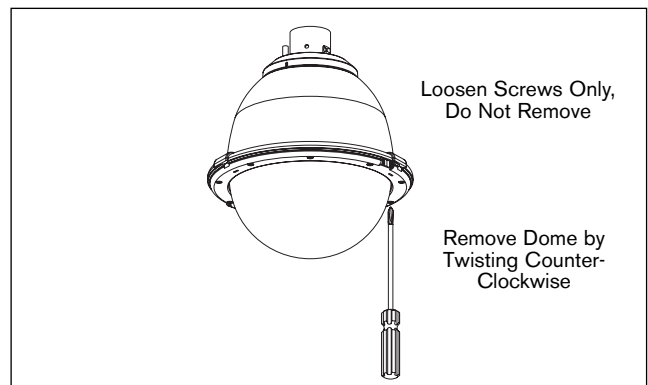

Figure 2 Open the Housing for Dome Removal
- 5.3.2 Open the housing by loosening the nine (9) captive screws located on the housing ring, next to the lower clear dome. Be careful not to back the screws all the way out. Twist the dome slightly in a counter-clockwise motion to remove it (Figure 2).